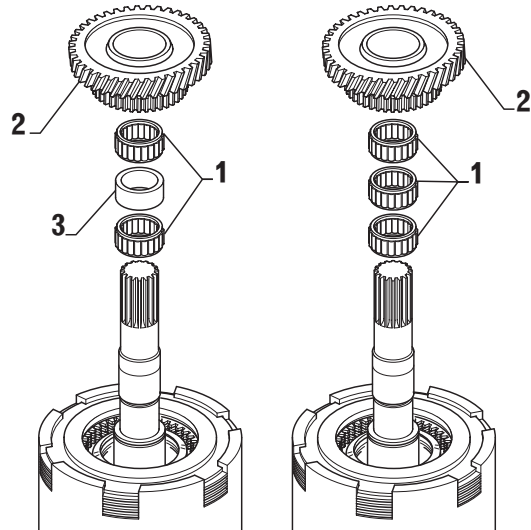

FIG. 1-2
- Install needle bearing (item 1 fig. 1-2) onto shaft.
- Slide spacer (item 3 fig. 1-2) where required.
- Align splines on clutch discs previously installed and install gear (item 2 fig. 1-2).